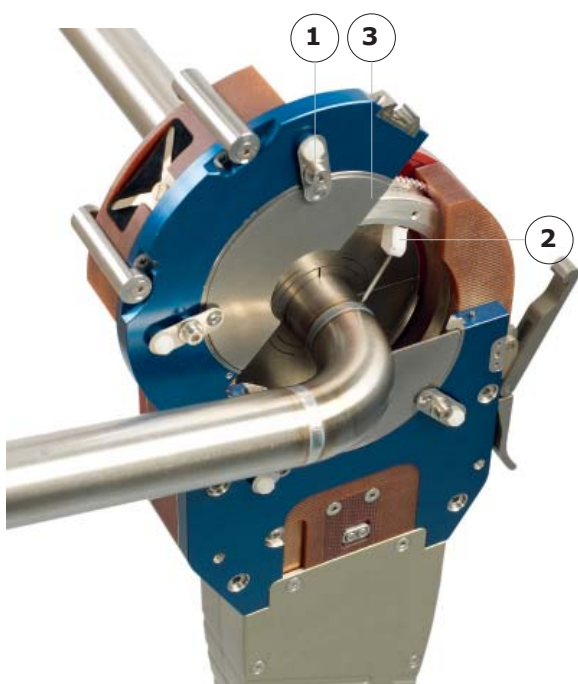

Fig.3.4 - Elbow kit
- The elbow kits (Fig. 3.4) allow elbows and accessories with a small straight cross-sectional area to be welded. They are made up of:
- An electrode offset kit (Fig.3.4 - 1). There are three types of these. See the section entitled "Offset electrode".
- A kit for welding an elbow on one side (Fig. 3.4 - 1). The welding kit is made up of a set of plate support shells and 4 latches. See the section entitled "Elbow kit". The welding kit is fitted with a pair of plates (Fig. 3.4 - 3) corresponding to the diameter of the part.